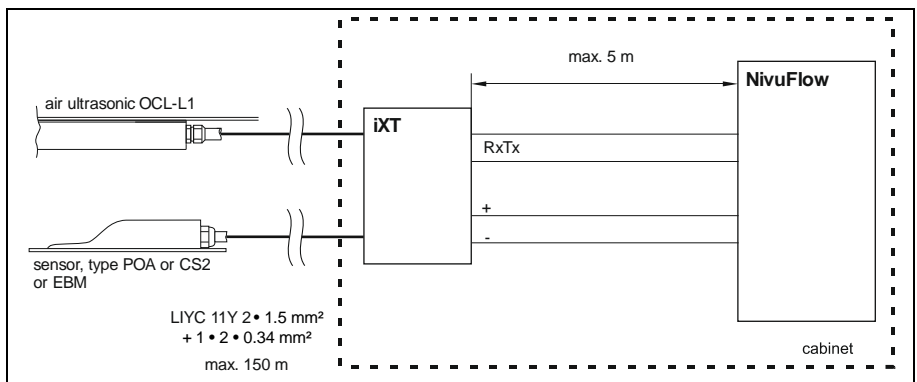
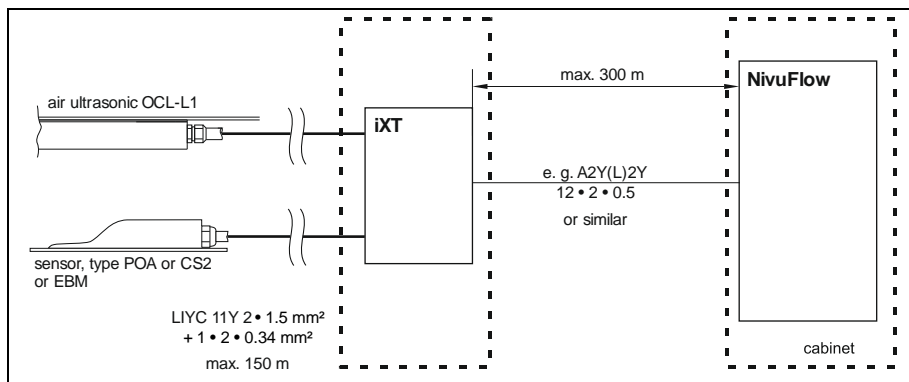

Fig. 13-1 Connection velocity sensor – iXT0
Fig. 13-3 Connection iXT0 – NivuFlow xxx with telecommunications cable
- 150 meters (see Fig. 13-1)
The maximum cable length in this case is 5 m (see Fig. 13-1).
For distances $> 100 \text{ m}$ between iXT0 and NivuFlow xxx transmitters use a telecommunications cable Type A2Y(L)2Y $12 \times 2 \times 0.8$ (or higher wire pair) or technically adequate types (see Fig. 13-3).
To connect cables observe the notes in chapter "13.1 Connection cable" as well as Fig. 13-1 to Fig. 13-3.